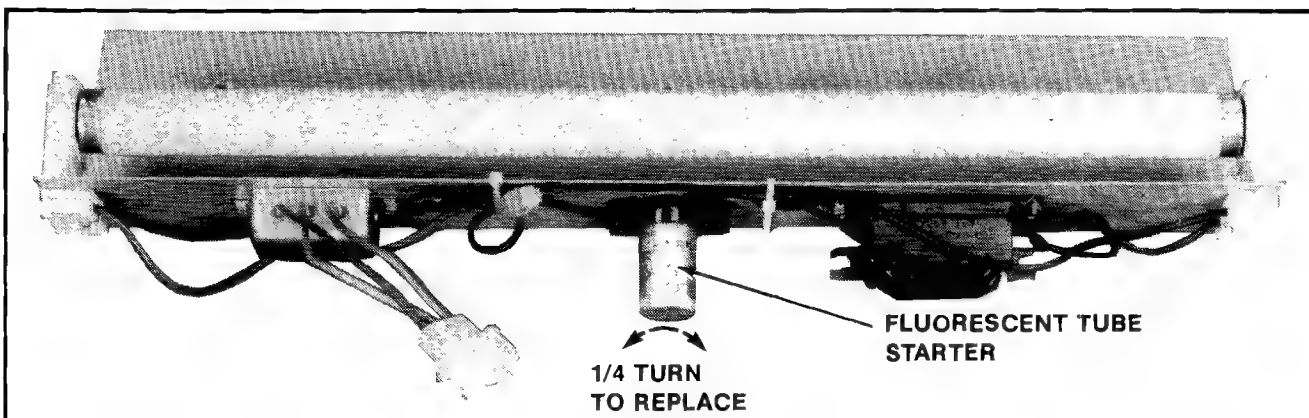

Figure 2-47 Replacing the Fluorescent Tube Starter - Upright
- ☐ Replacing the fluorescent tube starter. See Figure 2-47.
- Replacing the black light tube starter. See Figure 2-47.